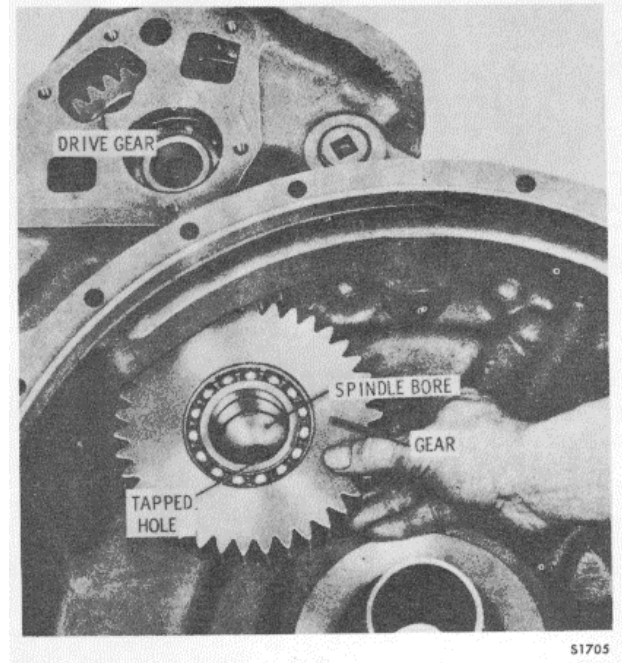

Figure 15-169. Installing Oil Pump Idler Gear Assembly
6. Install the oil pump idler gear and bearing assembly (snap ring down) over the idler gear spindle bore in the converter housing (Figure 15-169). Align the gear with the spindle bore.